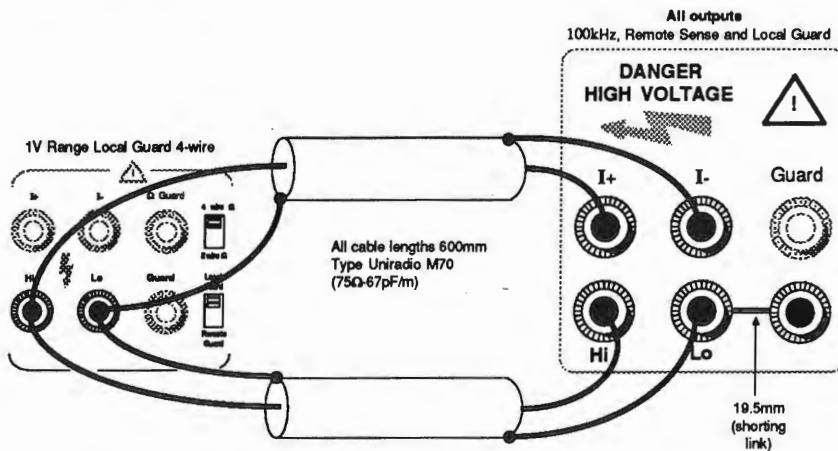

Fig. 1 10V and 1V Range Interconnections
- c. With OUTPUT OFF connect a DVM to the 4705 terminals using the exact 4-wire connections as in Fig. 1.